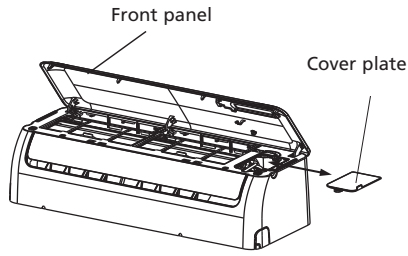

Figure 19
- c. To mount the cable to the interior unit: Remove the front panel and the cover plate of the terminal strip on the right hand side of the interior unit. Figure 19.